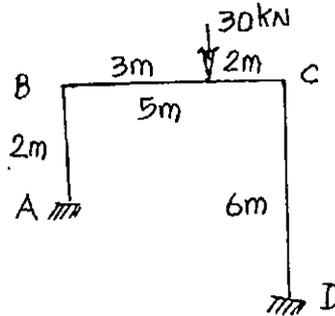

Fig. Q. 12.3
- (b) Determine the stiffness matrix for the plane rigid frame shown in Fig. Q 12.3. Draw bending moment diagram.  $I_{AB} = I$ ;  $I_{BC} = 2I$ ;  $I_{CD} = 1.5I$ . (16)